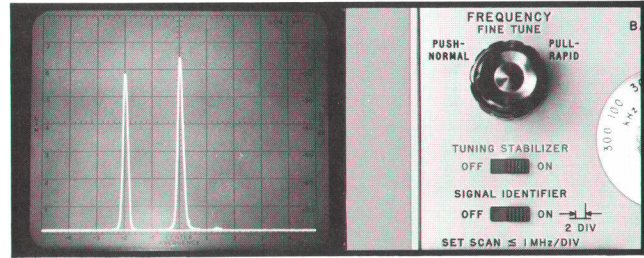

Fig. 3. When the signal identifier is switched on, the signal appears to split in two. The bands are switched until this image is obtained.
When the preselector is not in use a single unknown signal will be displayed on each band. The amplitude, frequency, and scan width calibration will be wrong unless the proper band is selected. The proper band can be selected rapidly by turning on the SIGNAL IDENTIFIER switch (Fig 3) causing the signal to split into two responses of differing amplitude. The band is then repeatedly changed until the two responses are spaced two divisions apart with the smaller on the left. Once this is accomplished, the analyzer is on the proper band.
scan on the signal of interest. There is a manual scan control on the 8552B IF unit and on the 8444 Tracking Generator for this purpose. The measurement is made by connecting a frequency counter to the output of the tracking generator. Fig. 3.
Fig. 3. Frequency of any signal on the screen can be measured accurately by counting the frequency of the tracking generator when it is synchronized with the signal of interest.
The front end of the 8556A, shown in Fig. 3, is isolated from chassis ground. Isolation eliminates the possibility of spurious signal pickup which
**Fig. 3.** Preattenuator, FET preamp, post attenuator, and first mixer are all isolated from chassis ground to prevent power line ground-loop pickup. Isolated power supply is a switching type supply, converting  $-12.6$  V to an isolated  $+20$  V and  $-20$  V for the preamp.